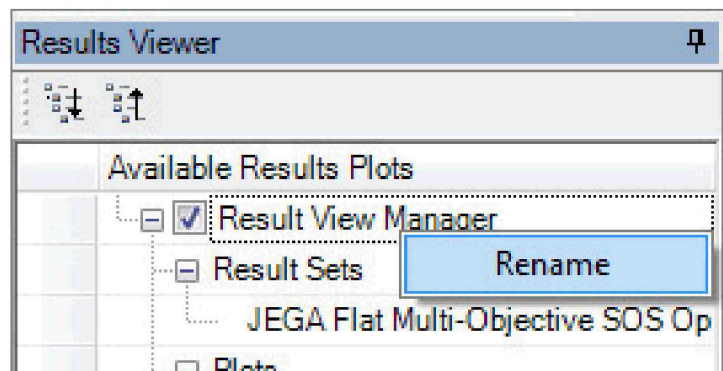

Figure 42. Renaming a result set before saving.
10. Right click on “Result View Manager” in the left navigation (Figure 42).